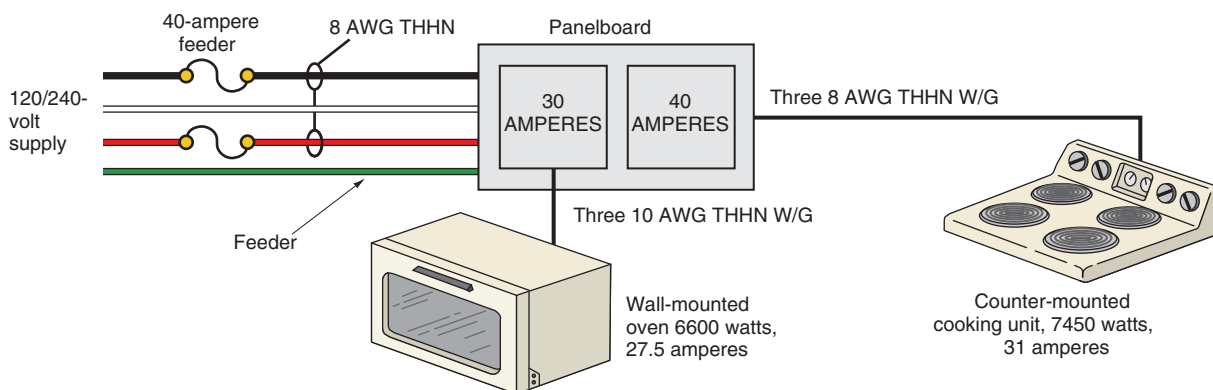

FIGURE 20-3 Appliances connected to a panelboard. (Delmar/Cengage Learning)
The tap rules can be ignored if a smaller panelboard is installed, as illustrated in Figure 20-3. There will be no taps—just branch circuits to each appliance sized for that particular appliance.
- Run one large feeder from the main panelboard to a panelboard located near the appliances, then run a separate branch circuit to each appliance. See Figure 20-3.